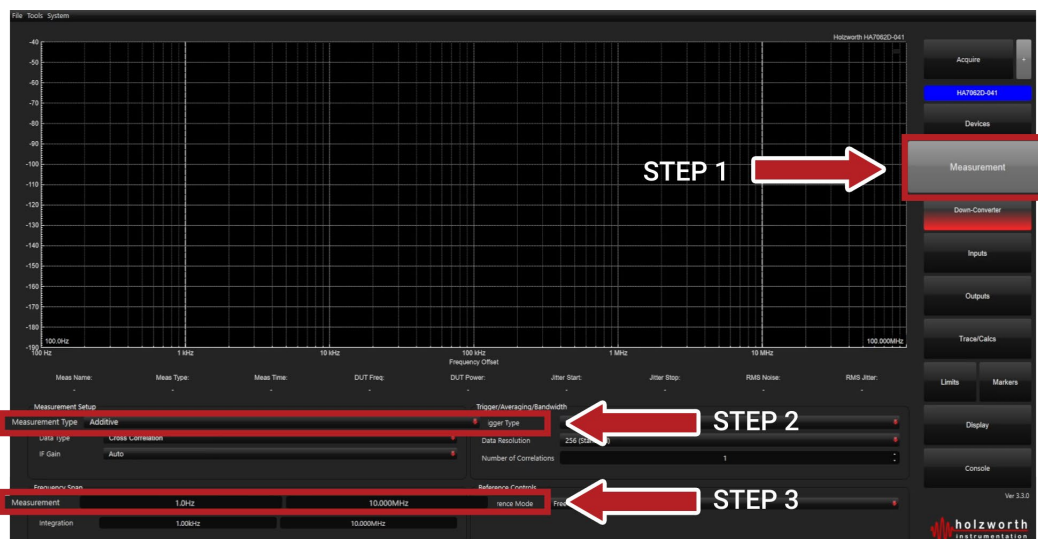

Figure 11: Setting up parameters in the Measurements menu of the GUI for an additive measurement.
STEP 3: Set the Frequency Span to be from 1 Hz to 10 MHz (Figure 11).